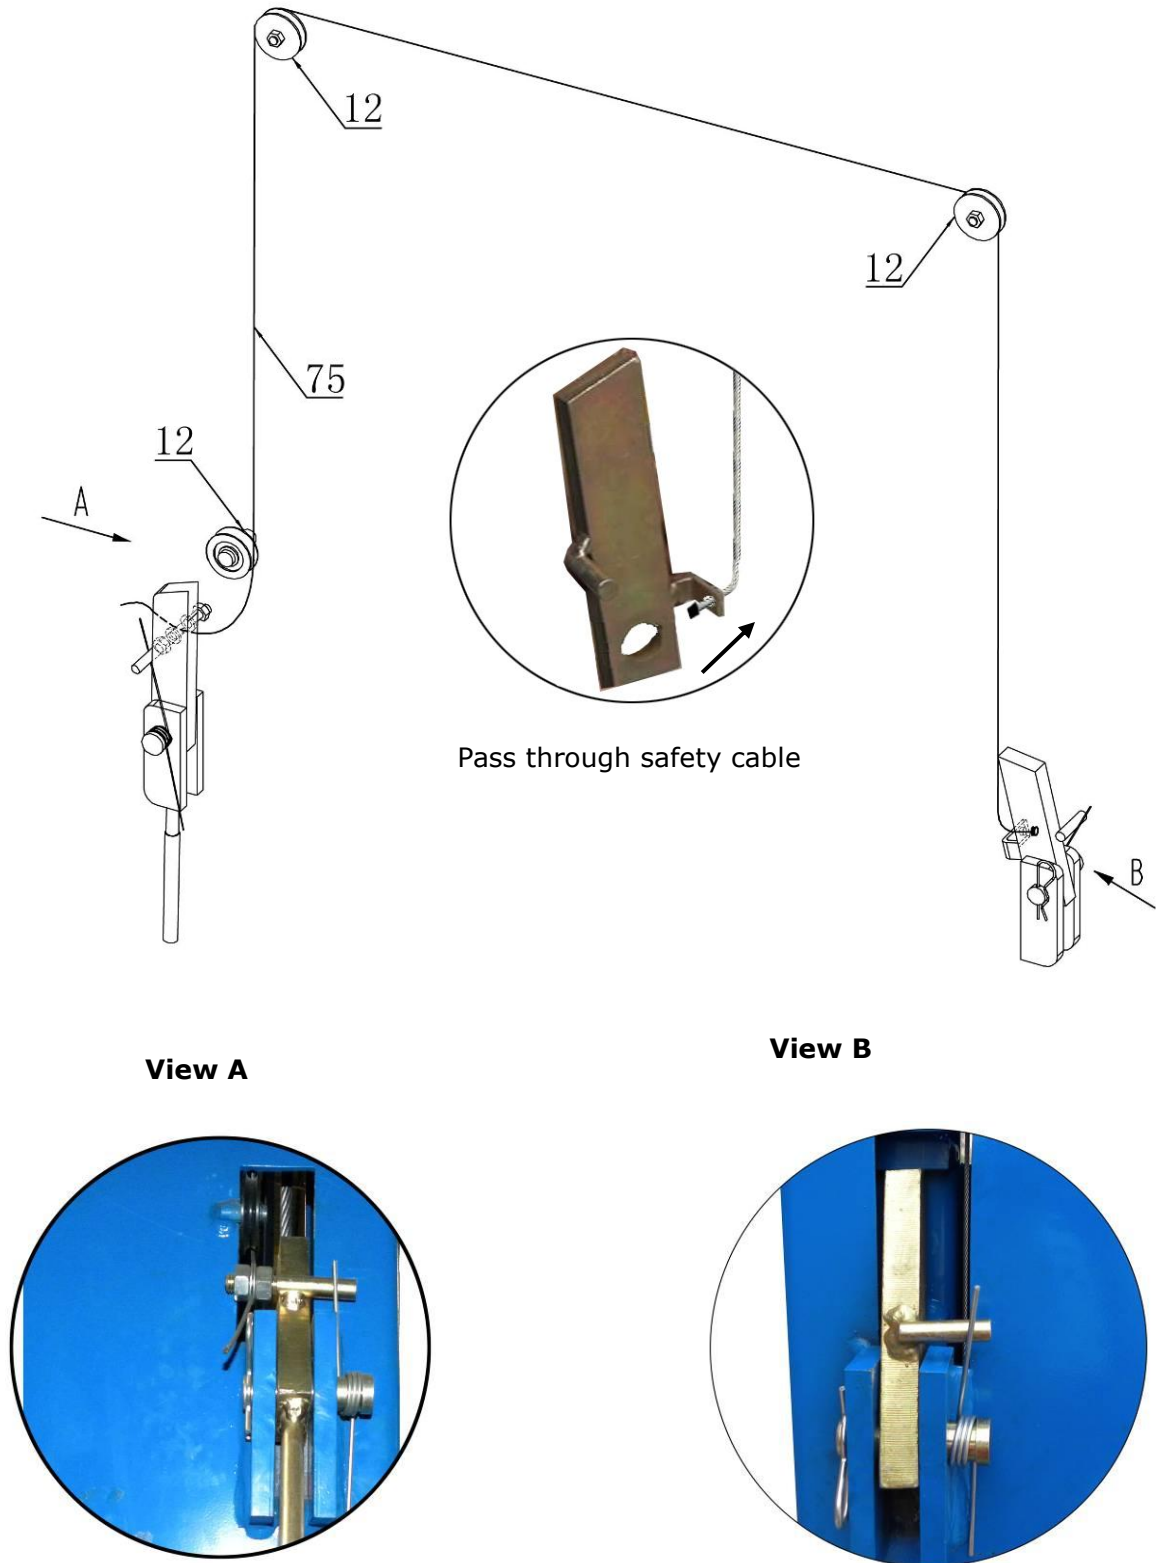

Fig. 22
M. Install safety cable (See Fig. 22).